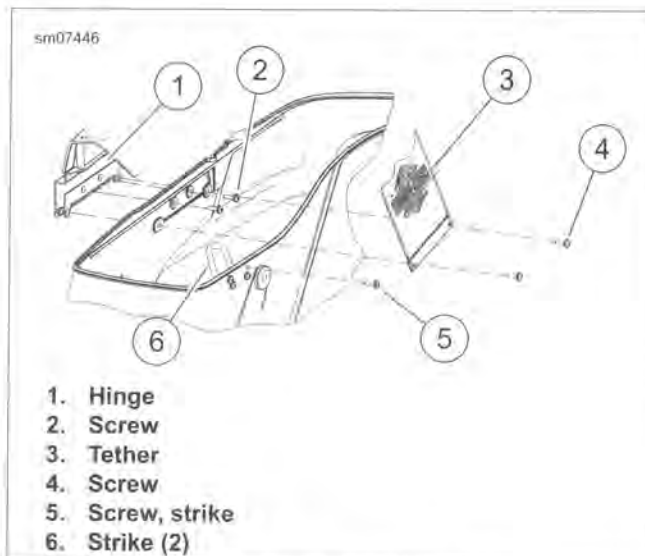
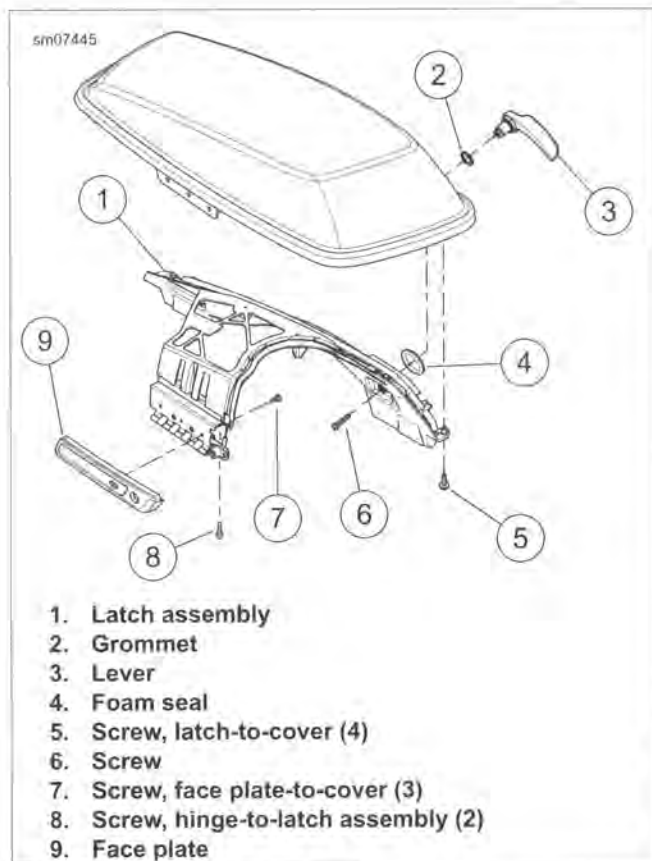

Figure 2-116. Saddlebag Hinge
Figure 2-117. Saddlebag Latch Assembly
- See Figure 2-116. Remove four screws (5).
- Remove strike (6).
- Install strike and secure with screws (5). Tighten to 15-20 **in-lbs** (1.7-2.3 Nm).
- See Figure 2-117. Remove screw (6) and latch handle (3). Do not lose grommet (2).
- Optional:** To ease access to screws (8), remove screws securing tether to latch assembly.
2. See Figure 2-116. Remove screws (4) securing tether to saddlebag.
3. Remove two remaining screws (2). Separate cover with latch assembly from saddlebag.
6. See Figure 2-117. Remove three screws (7).
7. Remove two screws (8). Remove hinge.
8. Align hinge and secure with screws (8). Tighten to 30-35 **in-lbs** (3.4-3.9 Nm).
9. Hold face plate (9) in place and install screws (7). Tighten to 40-45 **in-lbs** (4.5-5.1 Nm).
See Figure 2-116. Screws (2, 4) are easily cross-threaded. Use extreme care when installing.
4. See Figure 2-117. Remove two screws (7) securing hinge to latch assembly. Remove latch assembly.